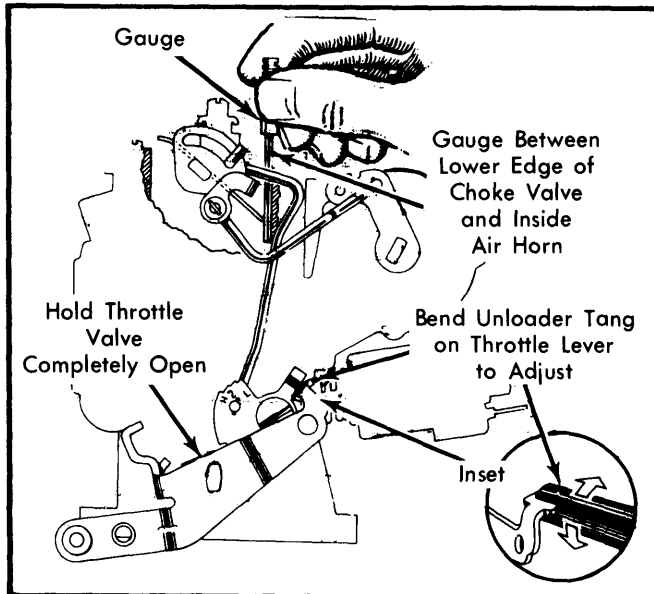

Fig. 6 Adjusting Choke Unloader
- 1) Open throttle valve wide open. Apply light closing pressure to choke valve. Measure specified clearance between lower edge of choke valve and air horn wall. See Fig. 6.